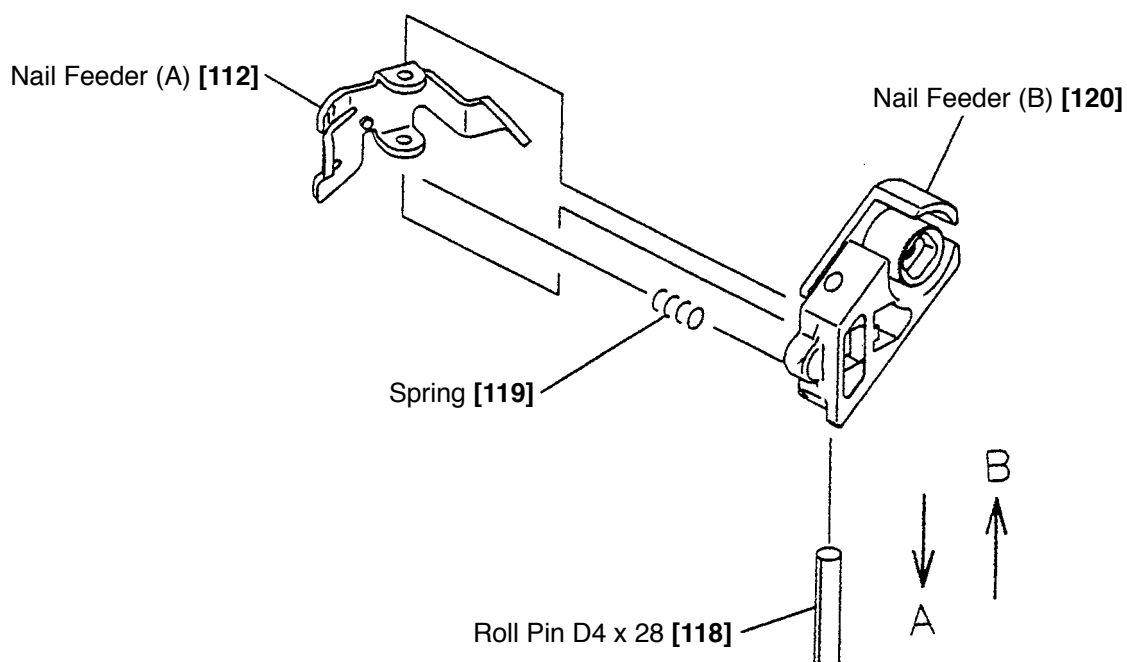

Fig. 52
- Remove the Lever Stopper **[116]** from the trigger of Handle (A) **[124]** with a hand.
- Remove the Roll Pin D4 x 28 **[118]** in "A" direction as shown in Fig. 52. Then Nail Feeder (A) **[112]**, Spring **[119]** and Nail Feeder (B) **[120]** can be removed.
- Mount Nail Feeder (A) [112] and the Spring [119] to Nail Feeder (B) [120] and drive the Roll Pin D4 x 28 [118] in "B" direction as shown in Fig. 52 to secure it. Do not protrude the end of the Roll Pin D4 x 28 [118] from Nail Feeder (B) [120].